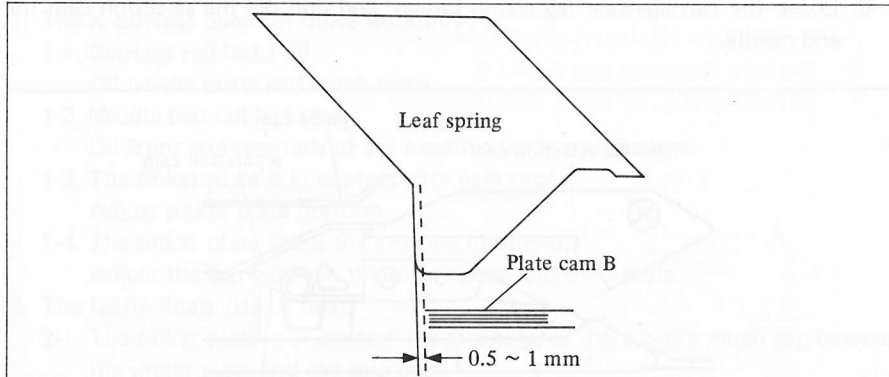

Fig. 6
- 1-2. By referring to Fig. 6, place the leaf spring at a distance of 1.0—1.2 mm inward from the cross section of the plate cam B and fasten with clamping screws.